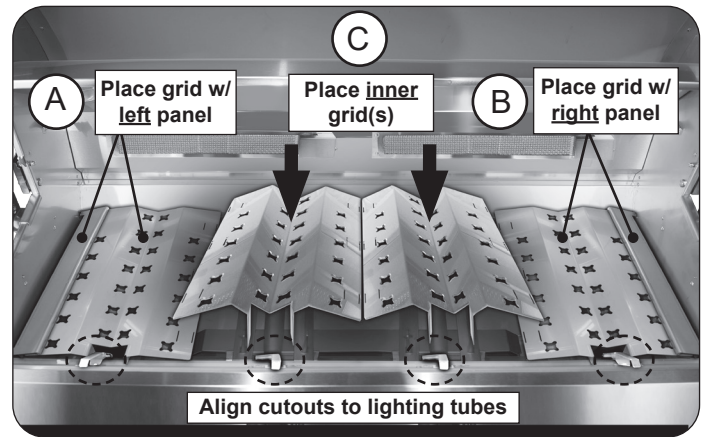

Fig. 24-1 Install flavor grids
1. Locate the flavor grid with the pre-attached **left panel** (see Fig. 24-1, A).
2. Carefully rest the grid onto the rear and front flavor grid rests while ensuring the flavor grid cutout clears the left-most lighting tube. See Fig. 24-1, A.
3. Locate the flavor grid with the pre-attached **right panel** and place it on the right side of the grill (see Fig. 24-1, B).
4. Take the remaining inner grids and carefully place them between the left and right flavor grids (see Fig. 24-1, C).